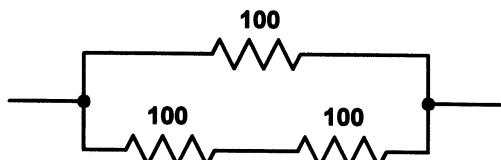

Figure 2.43
- 2.5 Three 100Ω resistors are connected as shown in Fig. 2.43. Determine the effective resistance of the circuit.